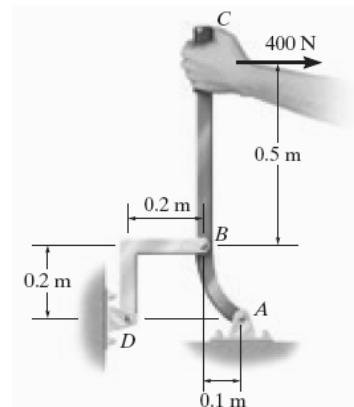

Figure 2-2
2. As shown in **Figure 2-2**. The lever ABC is pin-supported at A and connected to a short link BD. If the weight of the members is negligible, determine the force of the pin on the lever at A.